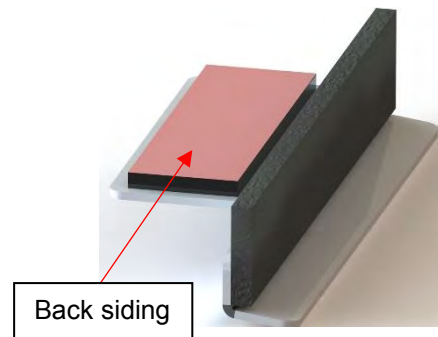

Figure 110
- 1) Locate the wiper brackets that are provided in the plastic bag (Figure 110).
- 2) Peel back siding of the double-sided tape of one wiper bracket (Figure 110).